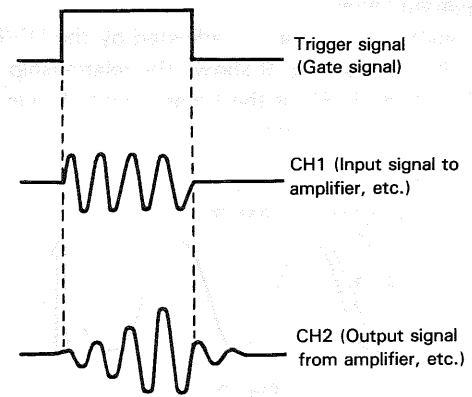

Fig. 7
When the SOURCE selection is in EXT/CH3, the input signal at the EXT TRIG INPUT ⑭ jack becomes the trigger. This signal must have a time or frequency relationship to the signal being observed to synchronize the display. External sync is preferred for waveform observation in many applications. For example, Fig. 7 shows that the sweep circuit is driven by the gate signal when the gate signal in the burst signal is applied to the EXT TRIG INPUT jack. Fig. 7 also shows the input/output signals, where the burst signal generated from the signal is applied to the instrument under test. Thus, accurate triggering can be achieved without regard to the input signal fed to the INPUT ⑤ or ⑨ jack so that no further triggering is required even when the input signal is varied. When the vertical MODE is set to TRI, triple-trace display is provided and the signal applied to EXT/CH3 is to be used to trigger the sweep, with INTERNAL sync possibility.